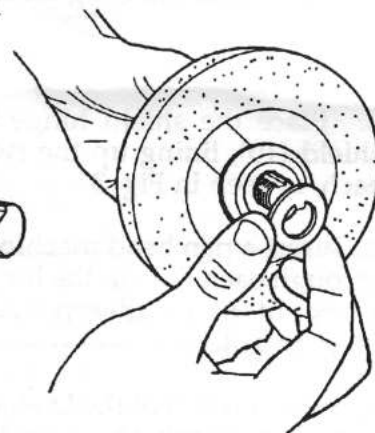

Fig. 13
13. Place the grinding wheel (not provided) of your choice on the arbor shaft, then re-install the top flange washer (15) and key washer (16), as demonstrated in Fig. 13.